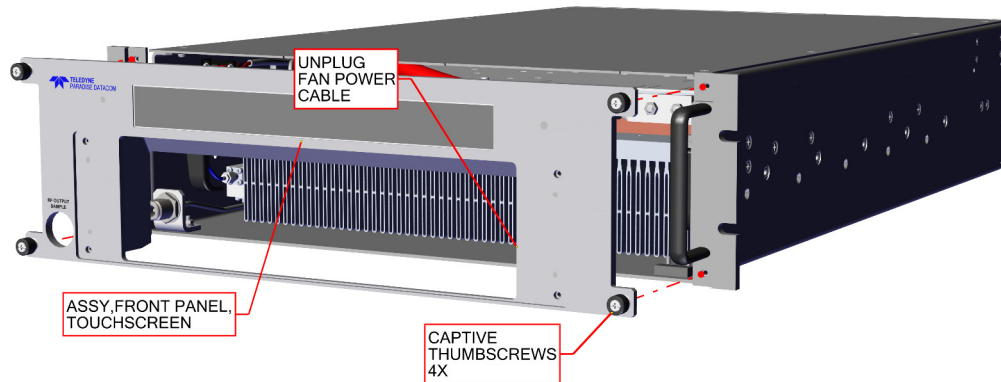

Figure 5: 3RU SSPA, Removable Front Panel
Four (4) captive thumb screws secure the front panel to the front of the chassis. Loosen the thumb screws by rotating them counter-clockwise with a Philips screwdriver. See Figure 5.